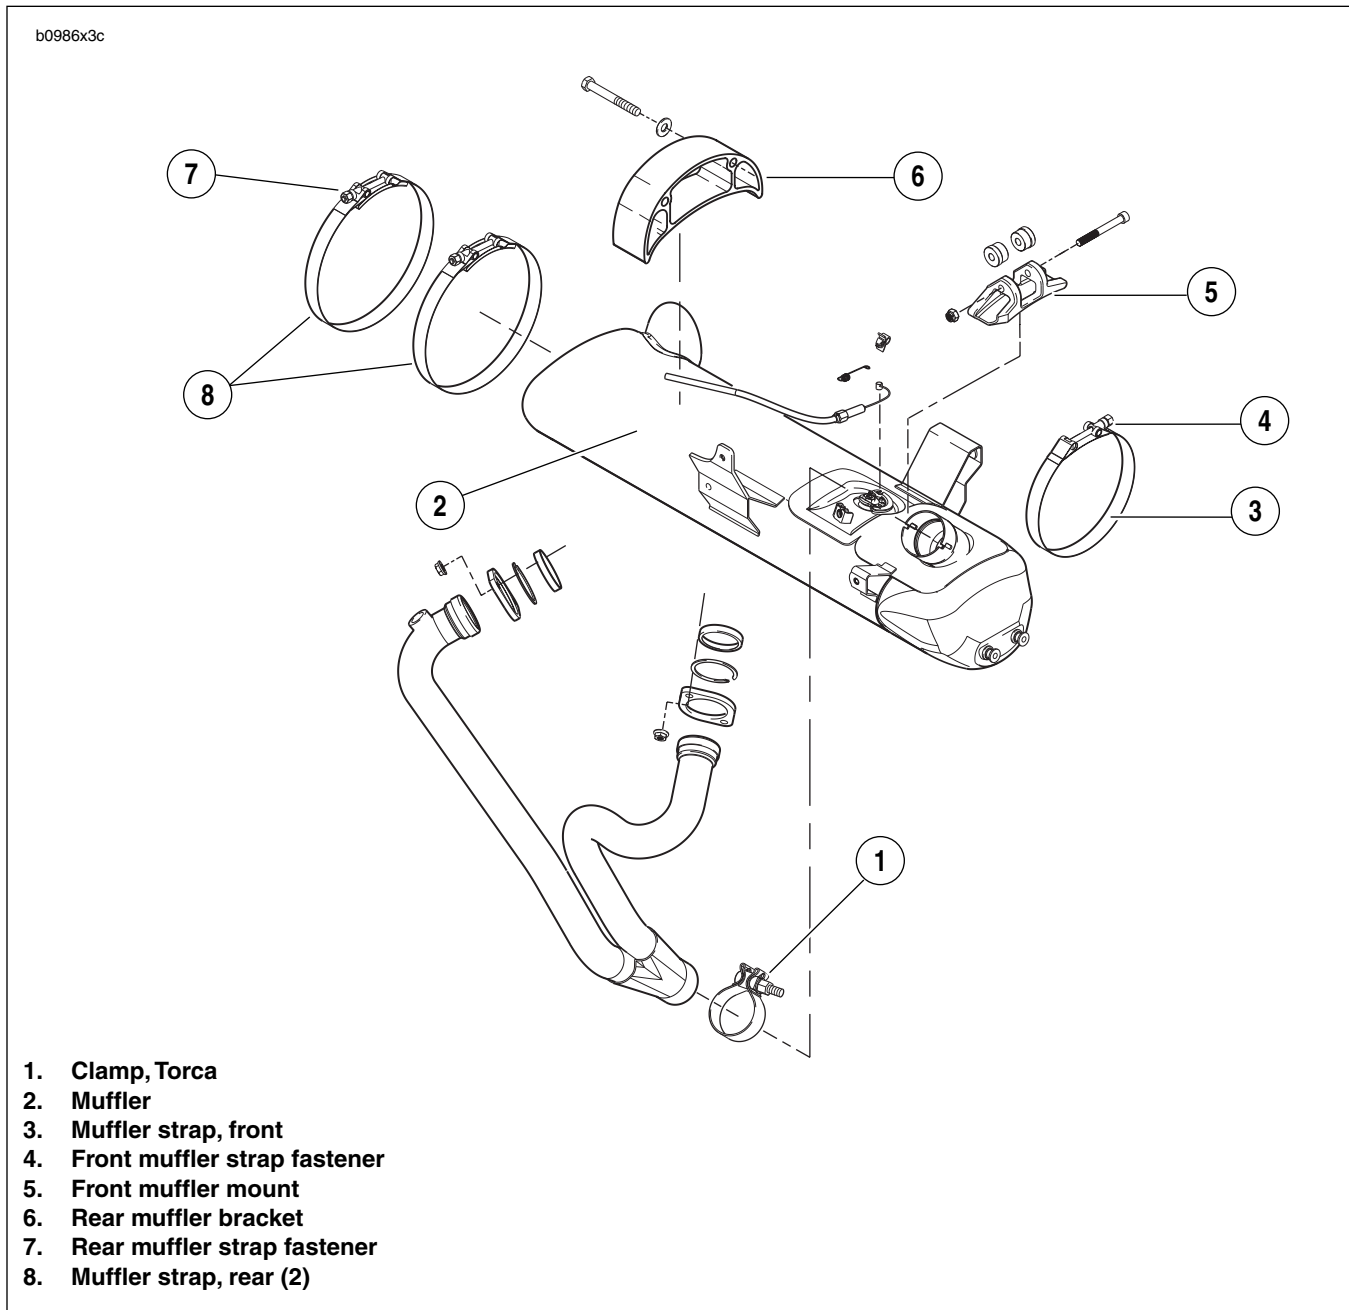

Figure 3-3. Muffer and Mounting System
16. See Figure 3-3. Remove muffer. See 2.32 EXHAUST SYSTEM.